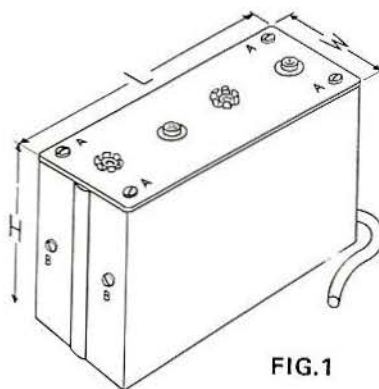

FIG. 1
- Before connecting supply, remove the four screws referenced 'A' in Fig. 1 and raise top plate which is joined by two wires to the internal circuit.
Removal of Wrap: Should it be necessary to gain access to the interior of the unit, withdraw the six screws referenced A and B in Fig. 1, raise and tilt top plate and lift off wrap via top of unit.